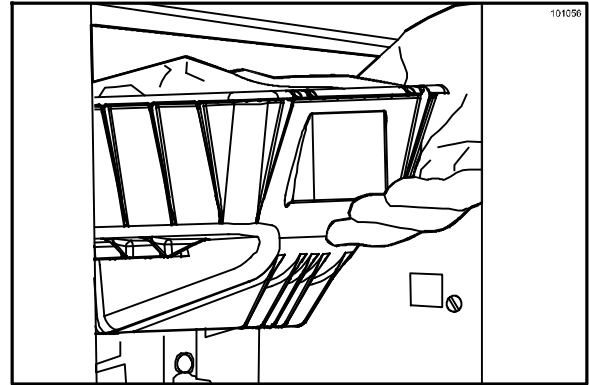

Figure 24
- Remove the product bin from the machine and place it on a stable, flat surface such as a counter top. (See Figure 24.)